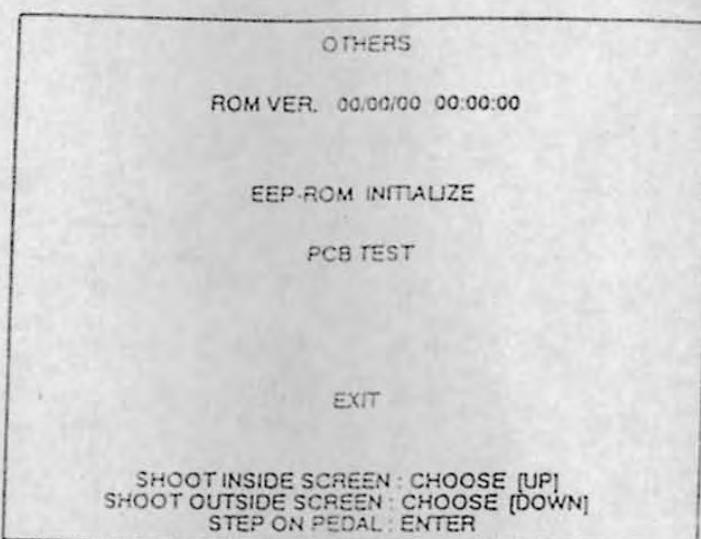

Fig. 6.10 OTHERS Screen
- 3) If "PCB TEST" is selected on the "OTHERS" screen (Fig. 6.10) and the pedal is stepped on, the "PCB Test" screen is displayed.